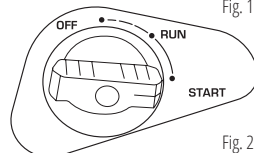

Fig. 2
4. Turn the air choke control knob to the “START” position (fig. 2).